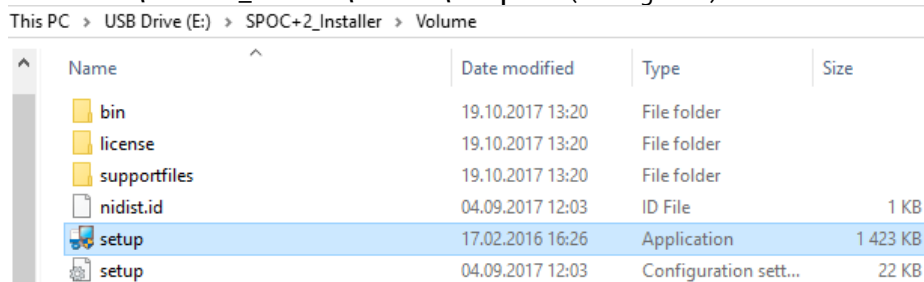

Figure 6 – SPOC™+2 - setup.exe
- **USB-Drive:\SPOC+2\_Installer\Volume\setup.exe** (see Figure 6)